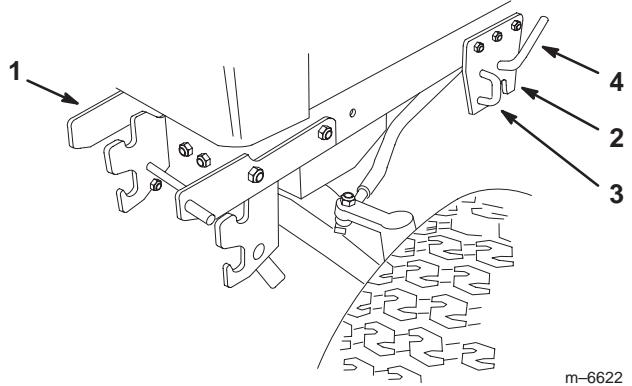

Figure 23
- Open the mid-mount hitch by pulling out the J-pin and moving the lock handle rearward (Fig. 23).
- If needed, remove the pulley box by pushing on the release lever and removing the pulley box (Fig. 23).